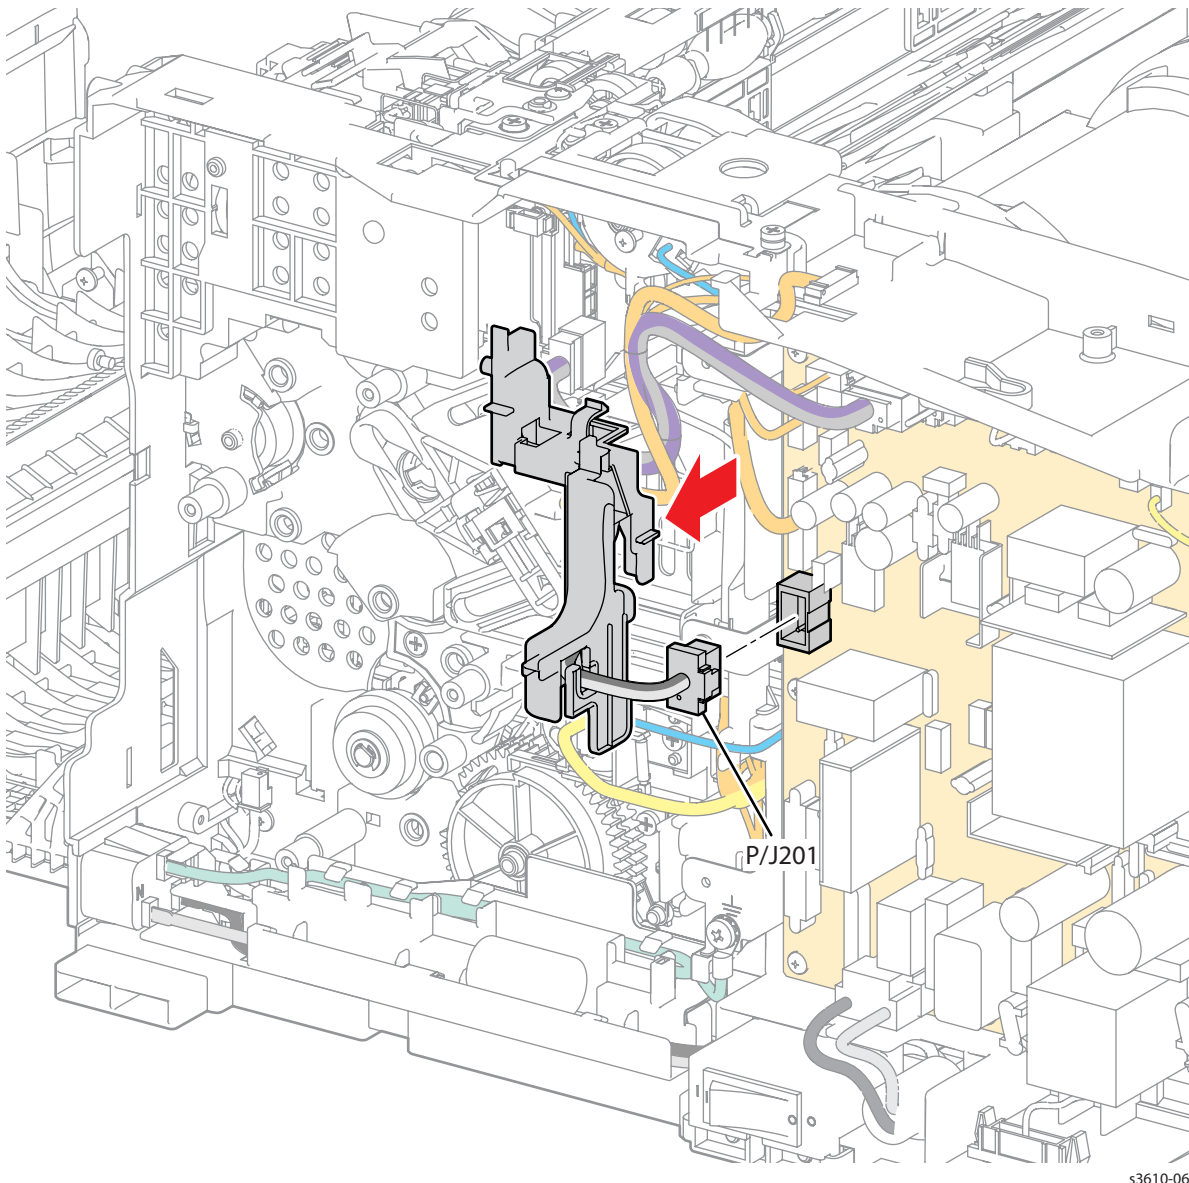

Figure 1
3. Disconnect P/J201 from the LVPS, and move the harness guide. (Figure 1)